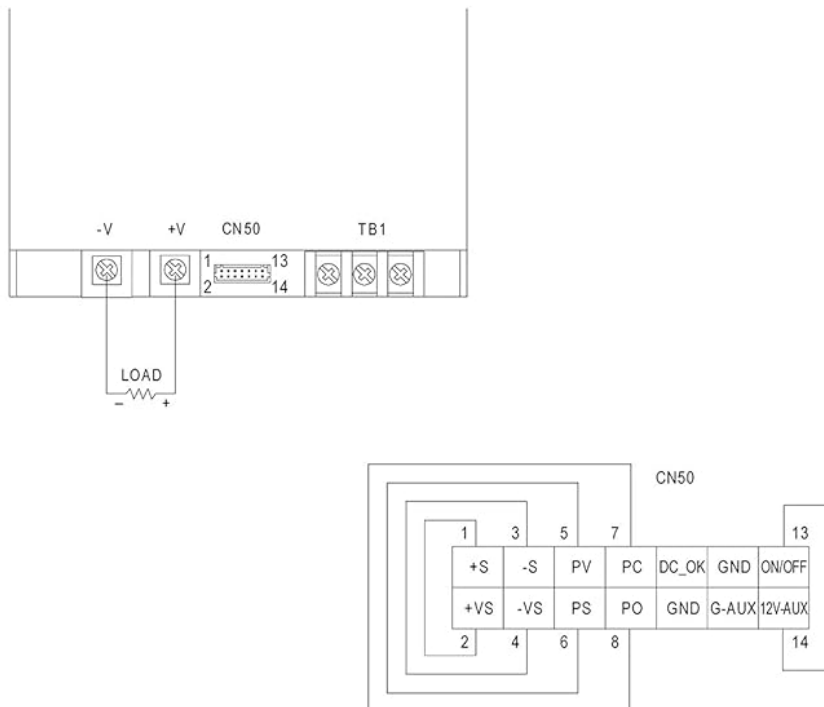

Fig 1.1 (Shorting connector)
- (1) The power supply unit will have no output if the shorting connector (accessory comes along with the PSU) is not assembled. It contains three shorting wires : one is from ON/OFF (pin13) to 12V-AUX (pin14), two is from PV(pin5) to PS (pin6) and the other is from PC (pin7) to PO (pin8).
- (2) Factory setting is shorted as Fig1.1